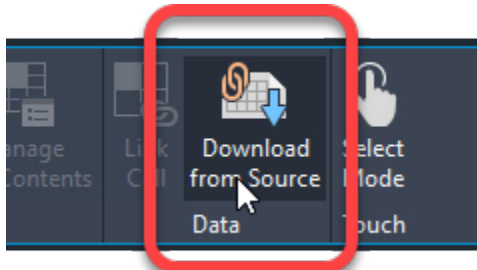

Figure 52: Update the Data Extraction Table using the Download From Source command on the contextual Table Cell Ribbon tab.
11. Update the Data Extraction Table by selecting any cell within the Table, and then choosing Download From Source from the Data panel of the contextual Table Cell Ribbon tab shown in Figure 52.